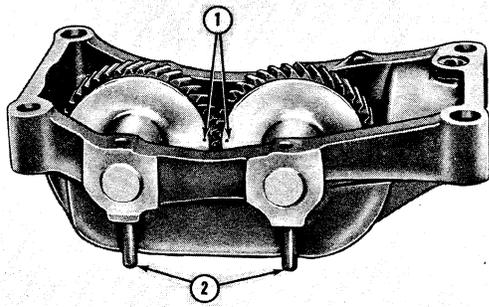
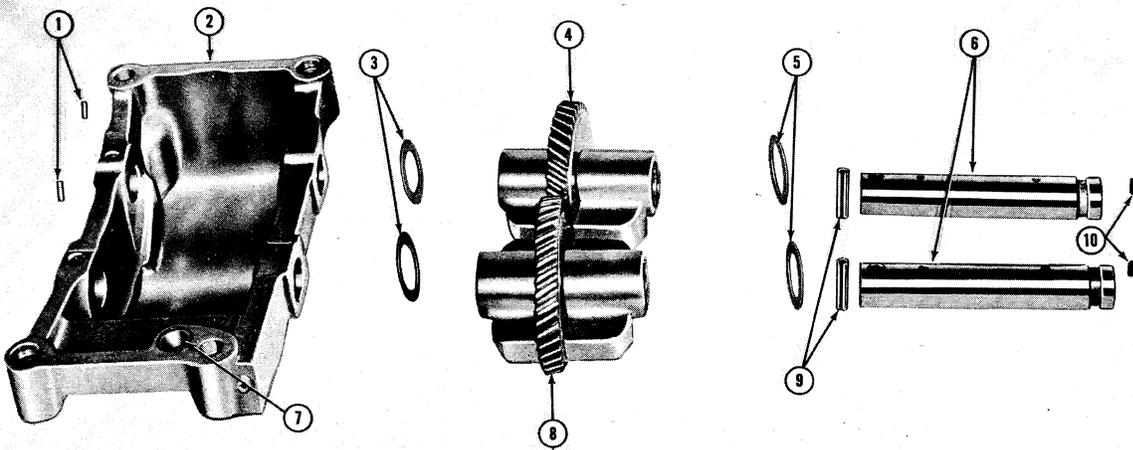

Figure 29
Figure 30
1. **BALANCER:** Drive out the roll pins securing the shafts to the housing, Figure 29, and disassemble the balancer as shown in Figure 30.